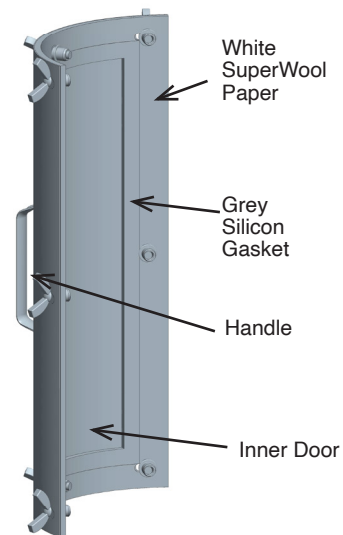

Figure 88: Step 6 of Removal for Inspection for the ADL
- 6- Inspect the ceramic gasket (white) and the silicone gasket (gray) attached on the inside of the Inner door for any damage (see Figure 88). If any damages, you must replace one or both gaskets. See Figure 88.